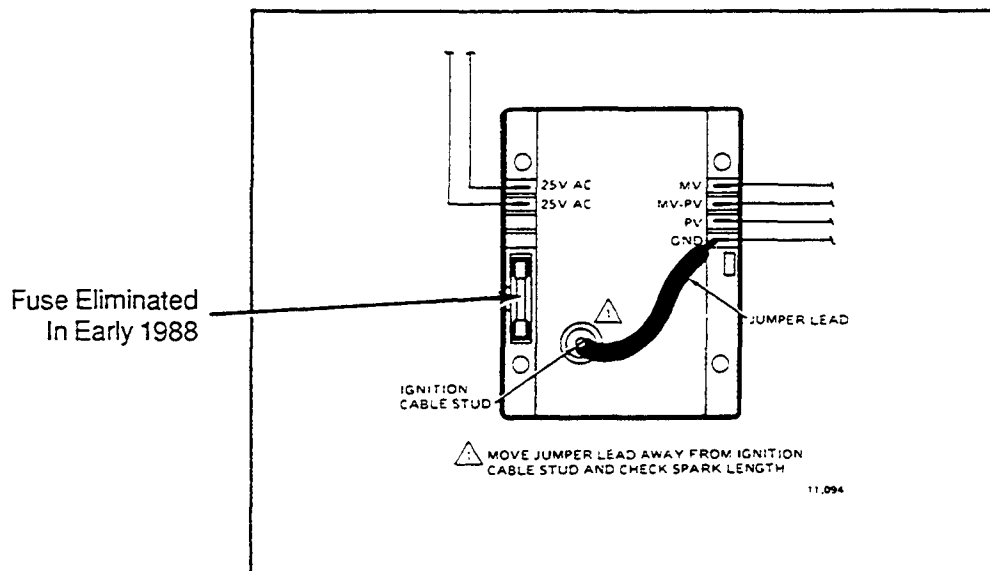

Figure 50. Checking Spark Ignition Circuit.
c. Energize the control board and touch one end of the jumper firmly to the control board ground terminal (GND). Do not disconnect the existing ground lead. Move the free end slowly toward the stud terminal to establish a spark and then pull the leadwire slowly away from the stud. Note the length of the gap at which arcing stops (Figure 50).